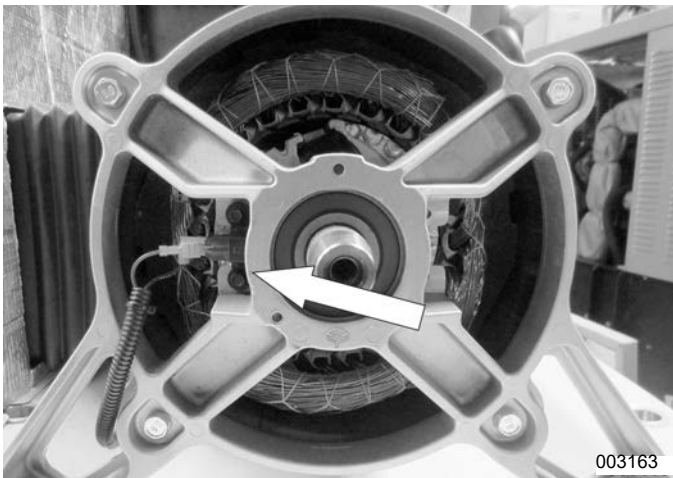

Figure 4-51. Brushes Location
19. **Remove Brushes:** See Figure 4-51. Use a 7 mm socket to remove brushes.